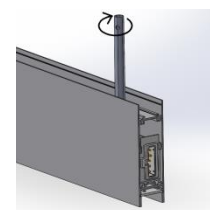

Fig.4
- 5) Using a 7mm key wrench, tighten the nut on the top of the luminaire (Fig. 4)
- 6) Using a 7mm key wrench, tighten the nut on the top of the luminaire (Fig. 4)